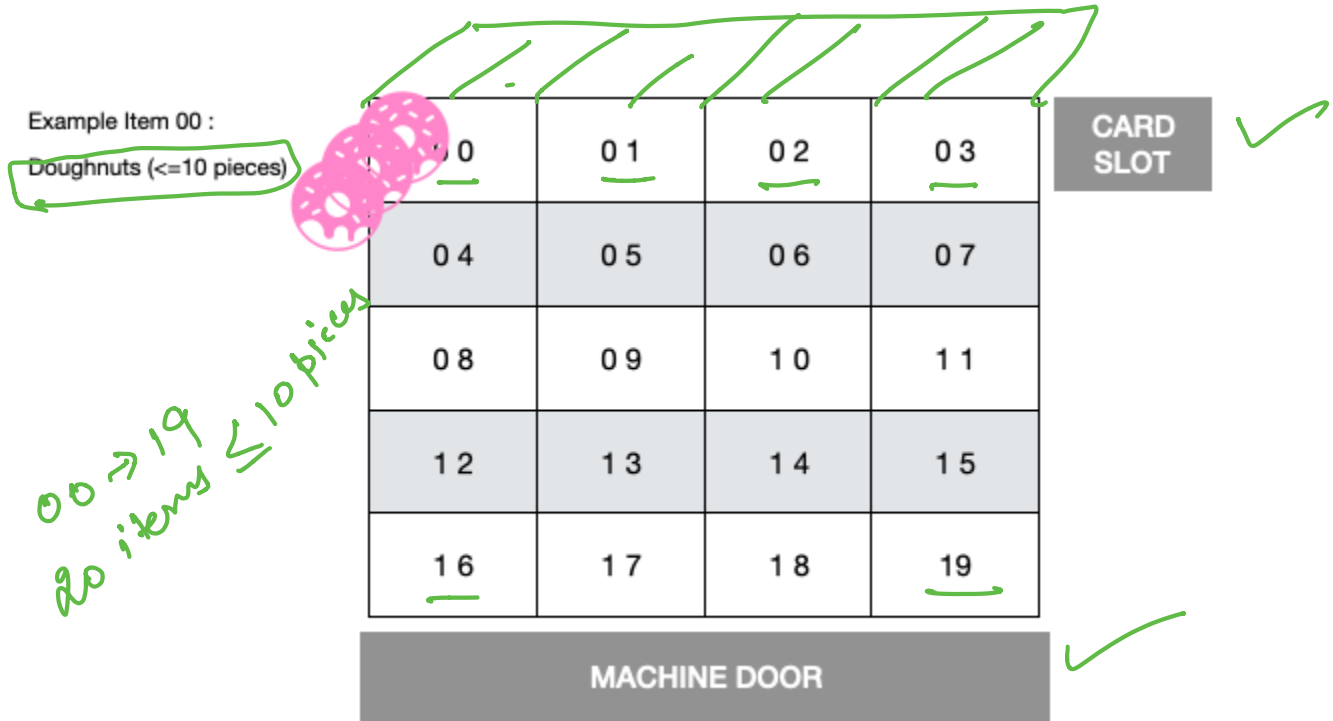

Fig 2: Vending Machine
2. Each snack is stored in a separate slot like the vending machines on campus (see Fig. 2). There can be up to 10 units of the snack stored in 1 slot. A counter for every slot keeps track of the number of units of the snack remaining in that slot.